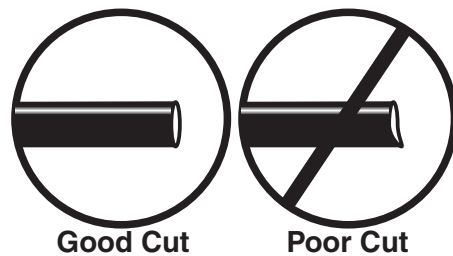

fig. 13
WHEN CUTTING OR TRIMMING THE AIR LINE, USE A HOSE CUTTER, A RAZOR BLADE, OR A SHARP KNIFE. A CLEAN, SQUARE CUT WILL ENSURE AGAINST LEAKS. DO NOT USE WIRE CUTTERS OR SCISSORS TO CUT THE AIR LINE. THESE TOOLS MAY FLATTEN OR CRIMP THE AIR LINE CAUSING IT TO LEAK AROUND THE O-RING SEAL INSIDE THE ELBOW FITTING (FIG. 13).
- Check the air line connection by deflating the spring and removing the line by pulling the collar against the fitting and pulling firmly on the air line. Trim 1" off the end of the air line. Be sure the cut is clean and square (see fig. 13). Reinsert the air line into the push-to-connect fitting.